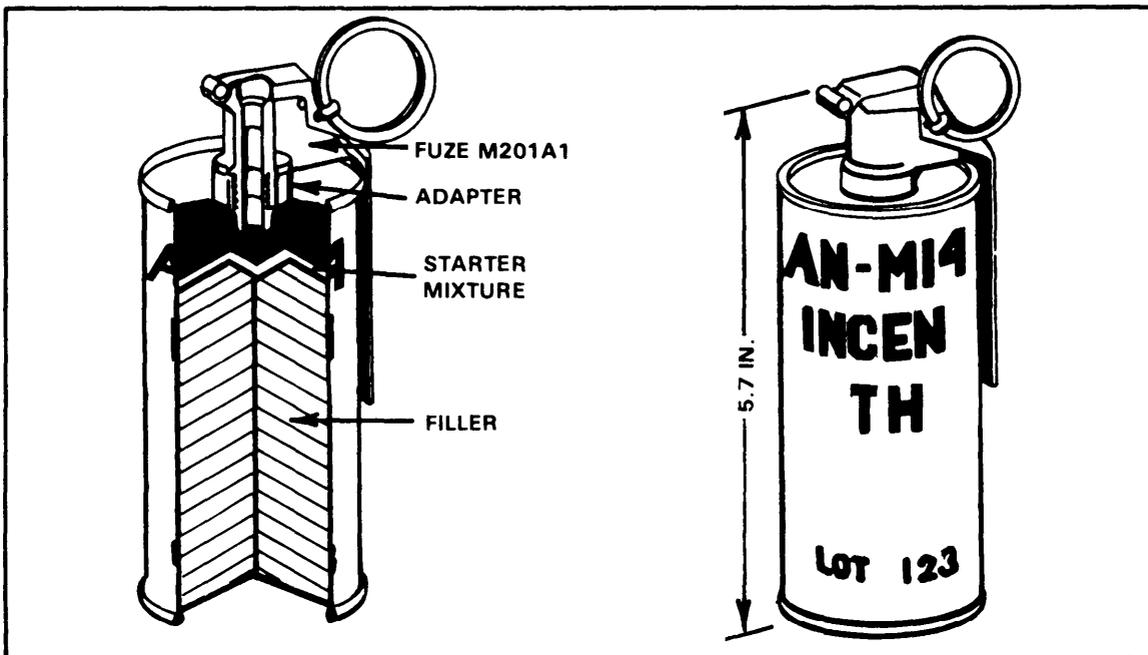

Figure 1-16. AN-M14 TH3 incendiary grenade.
a. Incendiary (Figure 1-16). The AN-M14 TH3 incendiary hand grenade is used to destroy equipment. It can damage, immobilize, or destroy vehicles, weapons systems, shelters, or munitions. The grenade may also be used to start fires in areas containing flammable materials.
- (1) Body -- sheet metal.
- (2) Filler -- 26.5 ounces of thermate (TH3) mixture.
- (3) Fuze -- M201A1, see paragraph 1-4.
- (4) Weight -- 32 ounces.
- (5) Safety clip -- no.
- (6) Capabilities -- can be thrown 25 meters by average soldier. A portion of the thermate mixture is converted to molten iron, which burns at 4,000 degrees Fahrenheit. It will fuze together the metallic parts of any object that it contacts. Thermate is an improved version of thermite, the incendiary agent used in hand grenades during World War II. The thermate filler of the AN-M14 grenade burns for 40 seconds and can burn through a 1/2-inch homogeneous steel plate. It produces its own oxygen and will burn under water.
- (7) Color/markings -- gray with purple markings and a single purple band (current grenades). Under the standard color-coding system, incendiary grenades are light red with black markings.